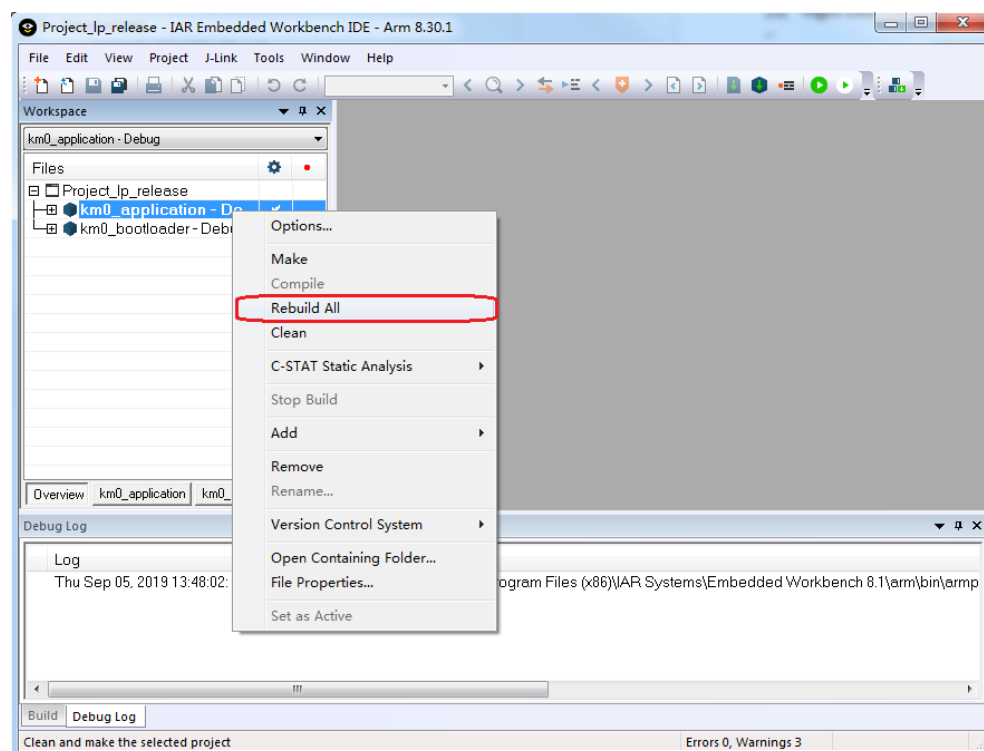

Fig 6-8 Building KM0 project
- (3) Right click the project and choose "Rebuild All", as Fig 6-8 shows. The km0\_bootloader and km0\_application should compile in order.